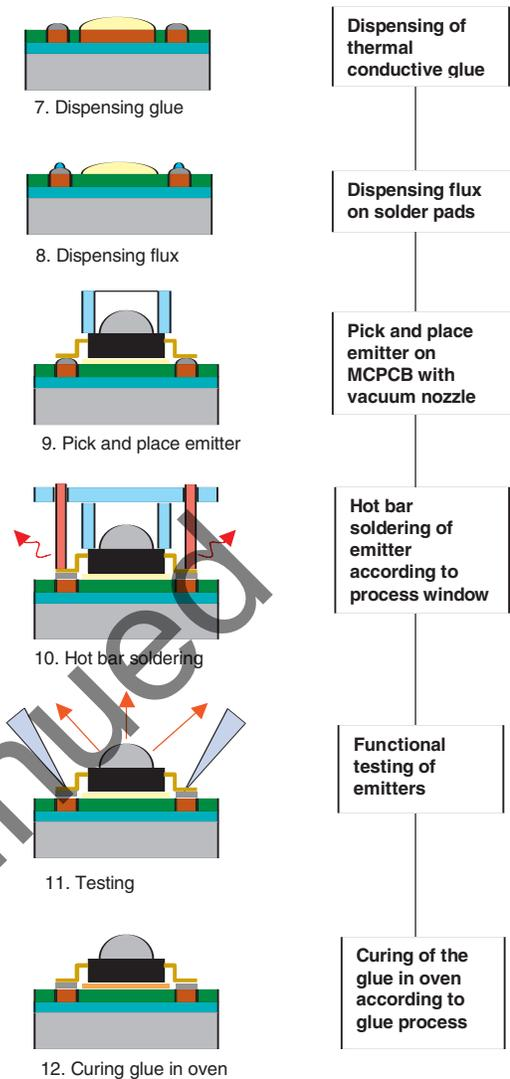

Figure 9. Steps 7-12, Mounting the LUXEON Emitter on the MCPCB.
- Mounting the LUXEON Emitter on the MCPCB (see figure 9)
Steps 7-12: Mounting the LUXEON Emitter on the MCPCB (see figure 9)